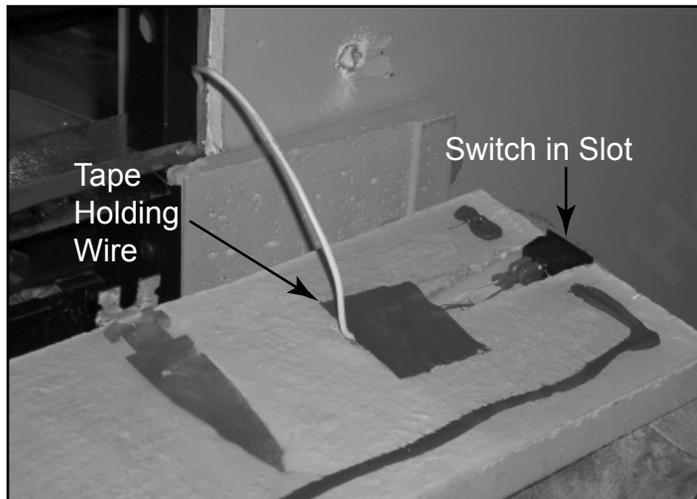

Figure 12.13 Place Switch in Slot, Tape on Wire
- Hold right surround top close to appliance and snap off/on switch in slot on back side of surround. Run switch wire down to end of channel and hold in place with a piece of heat resistant tape (not provided). See Figures 12.13 and 12.14.